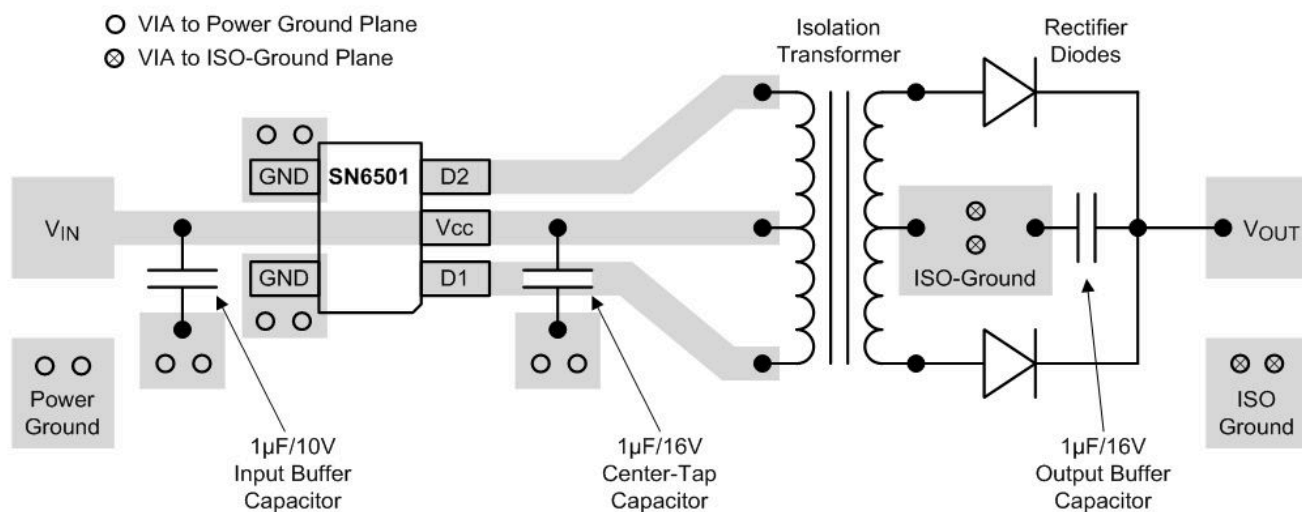

Figure 10-1. Layout Example of a 2-Layer Board (SN6501)
- The optimum placement is closest to the V_{IN} and GND pins at the board entrance to minimize the loop area formed by the bypass-capacitor connection, the V_{IN} terminal, and the GND pin. See Figure 10-1 for a PCB layout example.